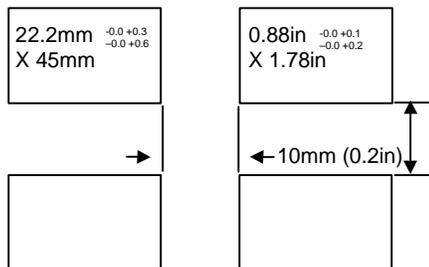

Figure 1-3 Panel cut-outs and minimum spacing
The electronic assembly of the controller plugs into a rigid plastic sleeve, which in turn fits into the standard DIN size panel cut-out shown in Figure 1-3. The controller can be unplugged from it's sleeve by easing the latching ears outwards and pulling it forward out of the sleeve. When plugging the controller back into it's sleeve, ensure that the latching ears click into place in order to secure the IP65 sealing.
1. Prepare the control panel cut-out to the size shown in Figure 1-3.